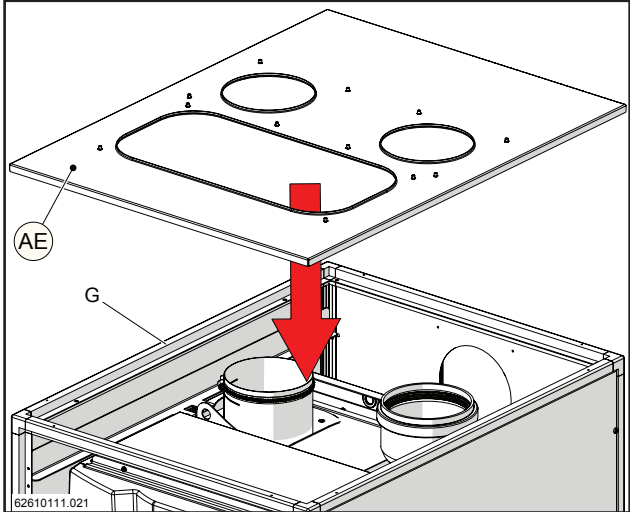

Figure 12-24
- 12.- Fit the upper covering (AE) to the upper frame "G", with screws "B" (figures 12-24 and 12-25).